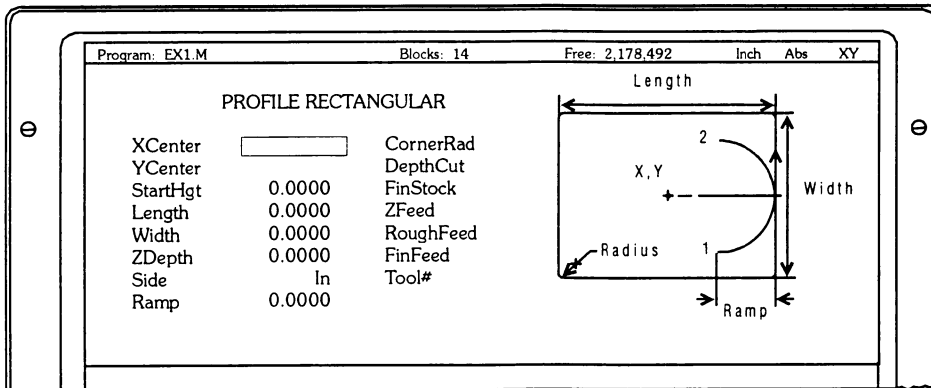

Figure 3, Rectangular Profile Screen Diagram
2. Machine feeds into the profile along Ramp #1, cuts profile to **Length**, and **Width** specified, then ramps away from the work along Ramp #2, see Figure 3, Rectangular Profile Screen Diagram.
press (ENTER),  (**PROFILE RECTANGULAR** screen diagram displays, see Figure 3, Rectangular Profile Screen Diagram).